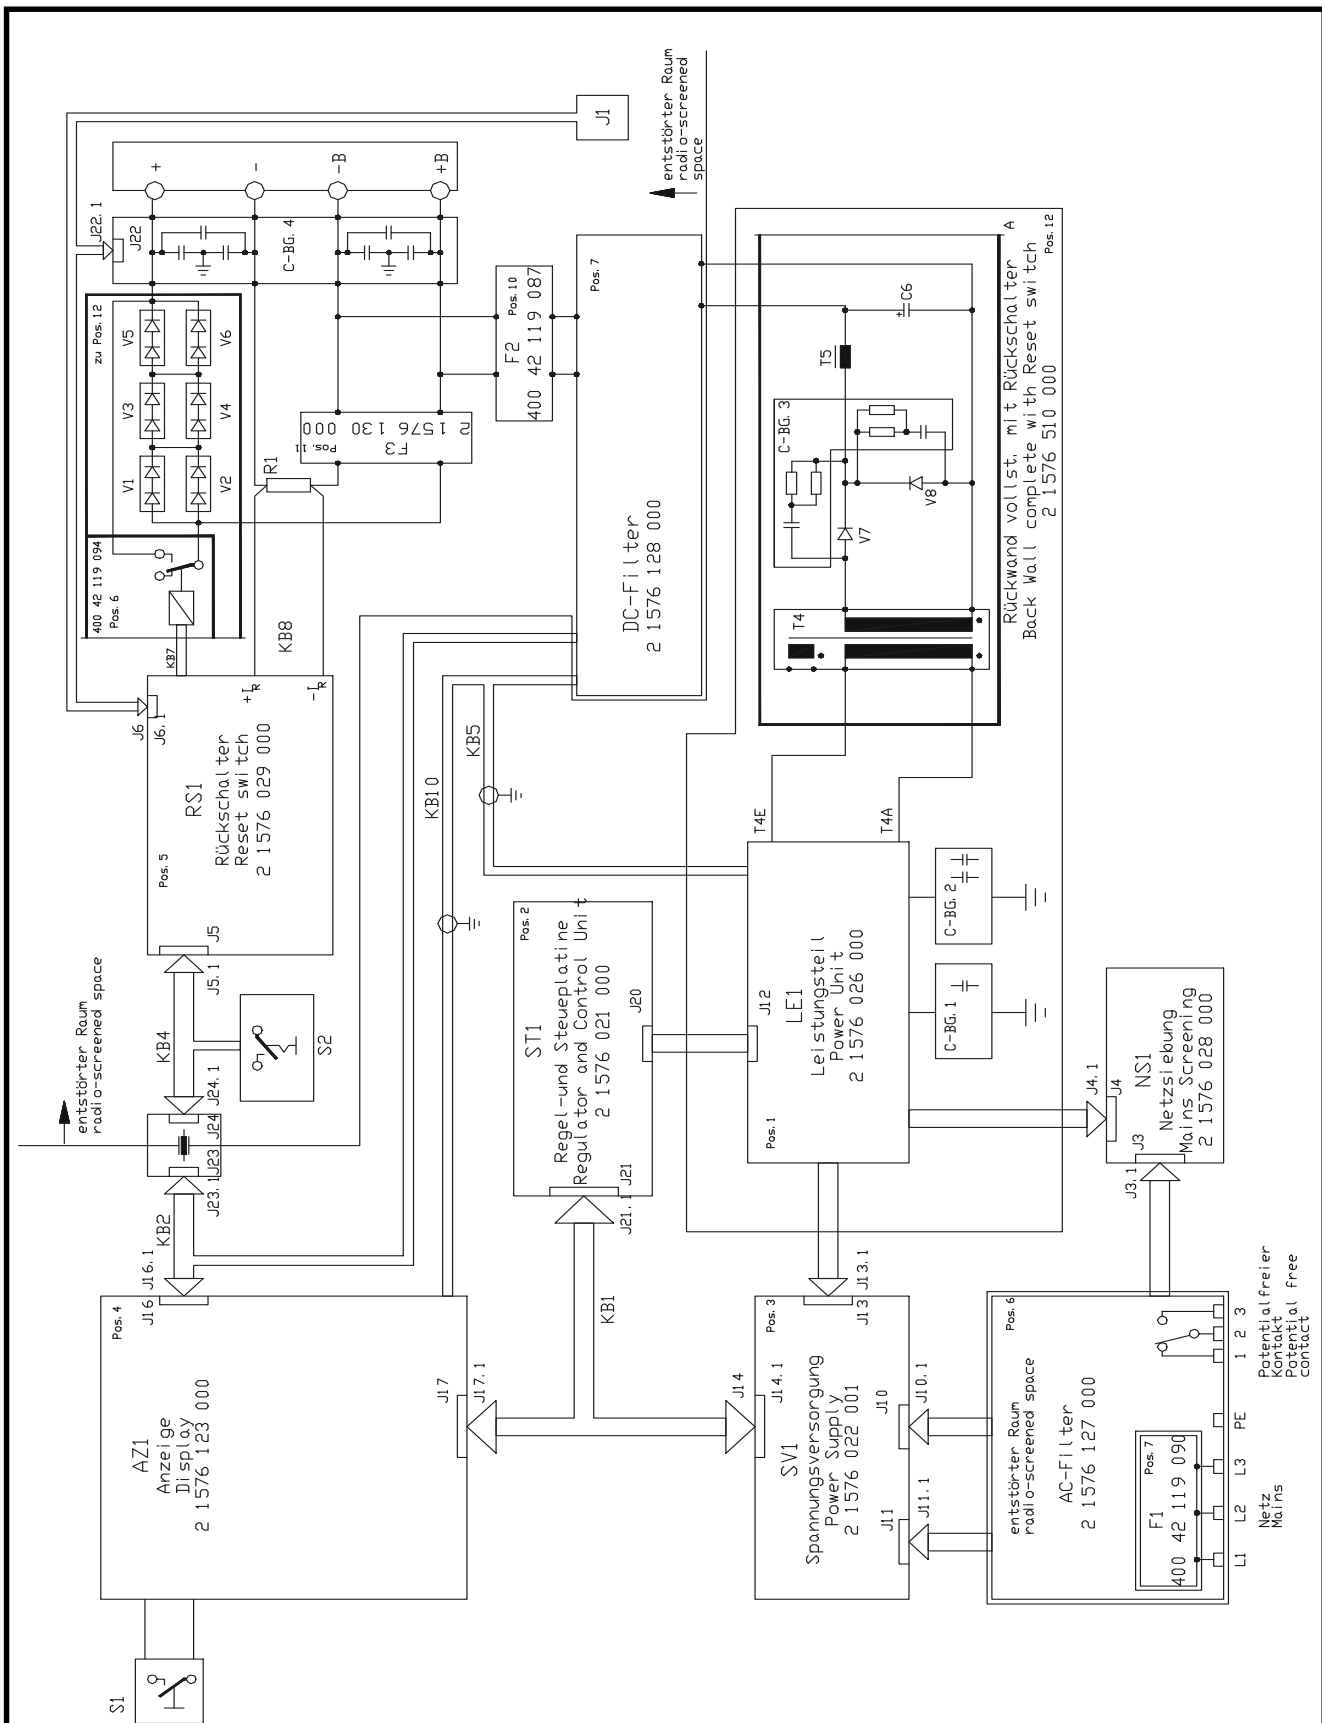

Fig. 5.5 Complete circuit diagram LG110S
5.4 LG110S performance description (Fig. 5.5, 5.6)